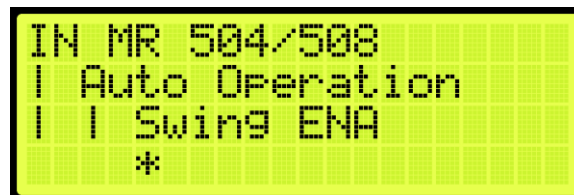

Figure 472: Input Menu – Enable Swing
8. Scroll and select Enable Swing (See Figure 472)